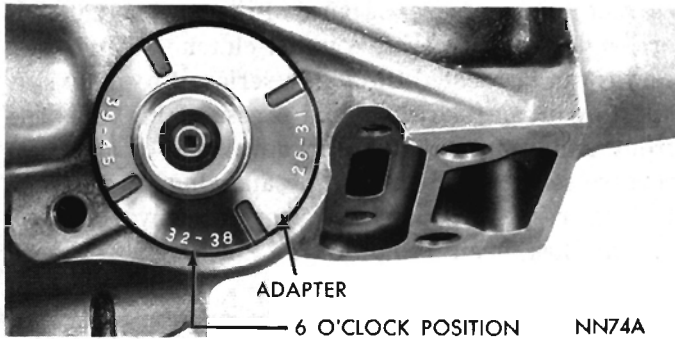
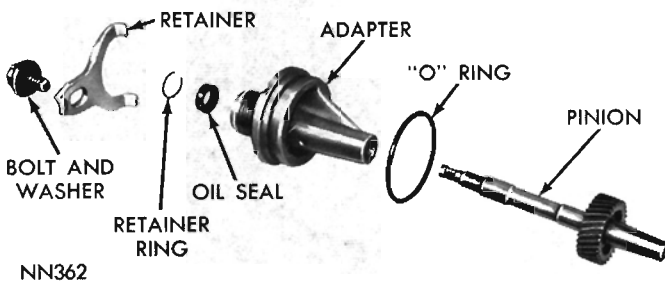
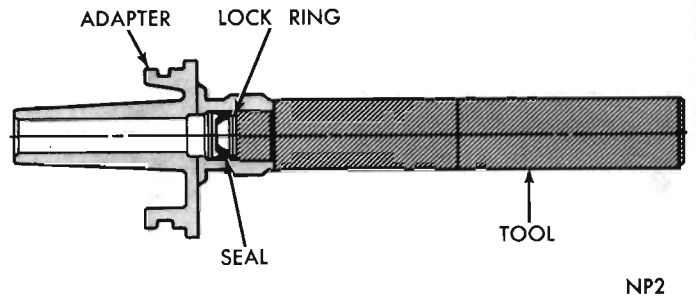

Fig. 26—Speedometer Pinion and Adapter—Installed (Retainer Removed for View)
Fig. 27—Speedometer Drive
Fig. 28—Installing Speedometer Pinion Seal
(1) Remove bolt and retainer securing speedometer pinion adapter in the extension housing (Fig. 26).
(2) With cable housing connected, carefully work adapter and pinion out of the extension housing.
(3) If transmission fluid is found in cable housing, replace seal in the adapter (Fig. 27). Start seal and retainer ring in the adapter, then push them into adapter with Tool C-4004 until tool bottoms (Fig. 28).
(4) Note number of gear teeth and install speedometer pinion gear into adapter (Fig. 27).
(5) With proper gear tooth range number in 6 o'clock position, carefully press assembly into extension housing (Fig. 26).
(6) Install retainer and bolt, with retainer tangs in adapter positioning slots. Tap adapter firmly into the extension housing and tighten retainer bolt to 100 inch-pounds.
(2) Remove speedometer pinion and adapter assembly (Fig. 26). Drain approximately two quarts of fluid from the transmission.
(3) Remove bolts securing extension housing to the crossmember. Raise transmission slightly with service jack Tool C-3203A, then remove center crossmember and support assembly.
(4) Remove extension housing to transmission bolts.